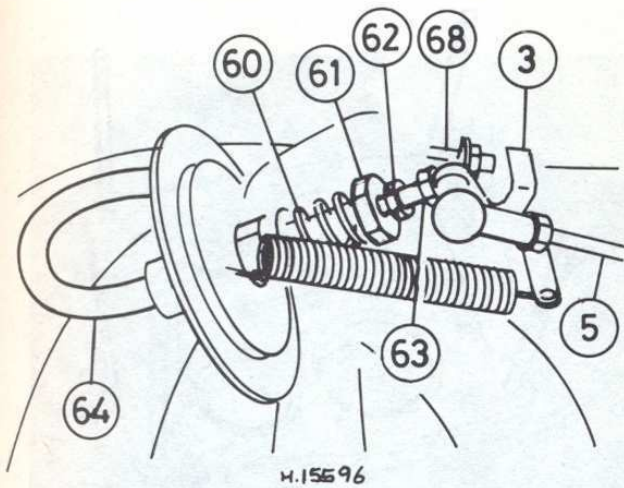

Fig. 3.6 Carburettor idle adjustment (Sec 8)
8 Now adjust the carburettor vacuum governor with reference to Fig. 3.6. With the engine running, pull off the vacuum hose and turn the screw (63) until the engine runs at 2000 rpm, then reconnect the hose.